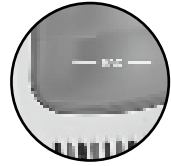

Figure 6:
- If the maximum fill level (marked „MAX“ see figure 6) of the dirty water tank has been reached, the tank must be emptied. **NOTE:** If the maximum fill level is exceeded, small amounts of water may leak out of the ventilation slots if the device is tilted too far. In order to avoid this, empty the tank before the maximum fill level is exceeded.